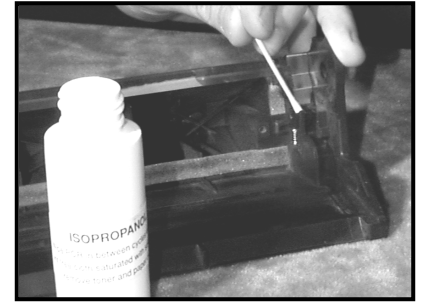

Figure 9
4. Clean the black PCR saddle clip with a cotton swab and 99% IPA (fig. 9). This clip is conductive and supplies the current to the PCR. If it is dirty or the PCR does not make good contact, print defects will occur. Re-install the PCR and OPC. Rotate the OPC against the wiper blade and then remove residual lubricant (padding powder) from the surface of the PCR with a clean lint-free cloth. Any padding powder left on the PCR will cause print defects. Set the drum unit aside and cover it with a clean cloth to protect it from light and physical damage.